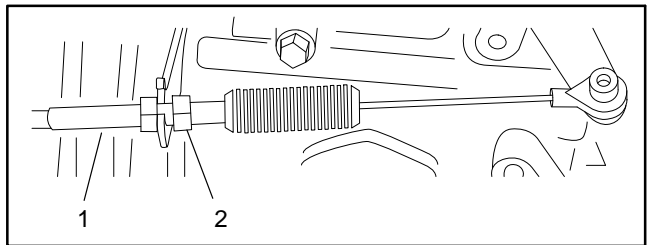

Figure 2
3. If necessary, throttle control can be adjusted by loosening cable jam nuts and repositioning throttle cable as necessary. There is no adjustment at the engine high speed stop bolt. Tighten cable jam nuts after adjustment has been completed (Fig.2).